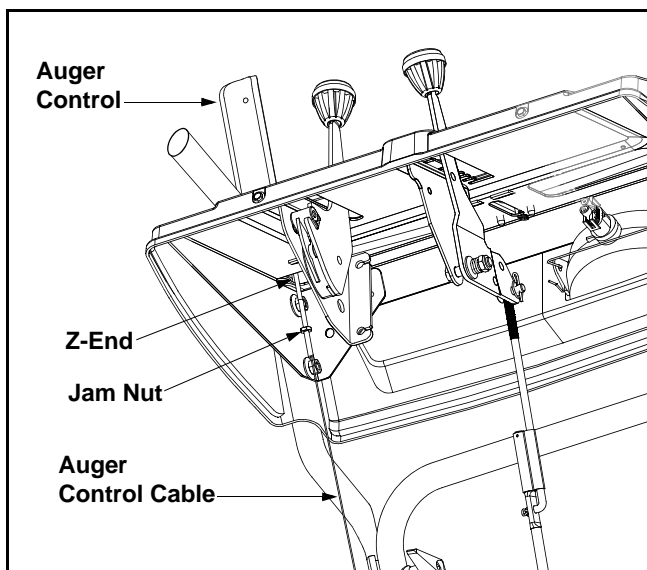

Figure 5
- Retighten the hex jam nut. See Figure 5.